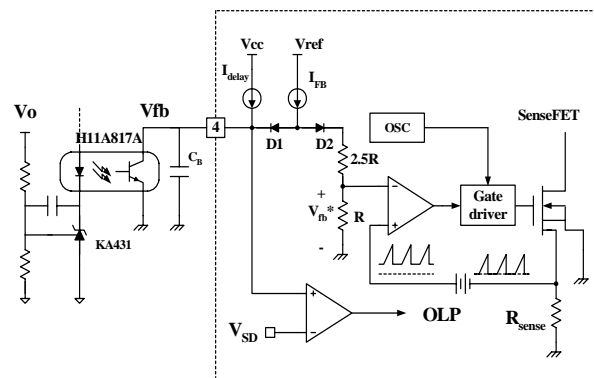

Figure 5. Pulse width modulation (PWM) circuit
2. Feedback Control : FSDM0565RB employs current mode control, as shown in Figure 5. An opto-coupler (such as the H11A817A) and shunt regulator (such as the KA431) are typically used to implement the feedback network. Comparing the feedback voltage with the voltage across the R_{sense} resistor plus an offset voltage makes it possible to control the switching duty cycle. When the reference pin voltage of 2.5V, the H11A817A LED current increases, thus pulling down the feedback voltage and reducing the duty cycle. This event typically happens when the input voltage is increased or the output load is decreased.
2.1 Pulse-by-pulse current limit: Because current mode control is employed, the peak current through the Sense FET is limited by the inverting input of PWM comparator (V_{fb}^*) as shown in Figure 5. Assuming that the 0.9mA current source flows only through the internal resistor ($2.5R + R = 2.8\text{ k}\Omega$), the cathode voltage of diode D2 is about 2.5V. Since D1 is blocked when the feedback voltage (V_{fb}) exceeds 2.5V, the maximum voltage of the cathode of D2 is clamped at this voltage, thus clamping V_{fb}^* . Therefore, the peak value of the current through the Sense FET is limited.